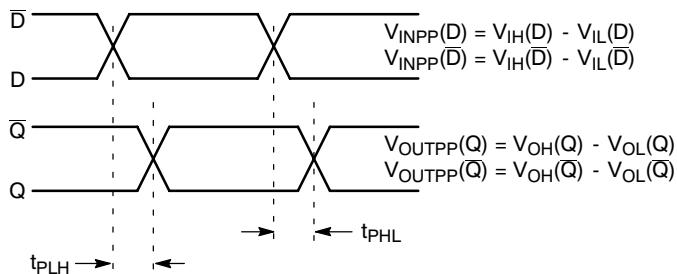

Figure 9. AC Reference Measurement
25. See Figure 9 $t_{SKew} = |t_{PLH} - t_{PHL}|$ for a nominal 50% differential clock input waveform. Skew is measured between outputs under identical transitions and conditions @ 1 GHz.